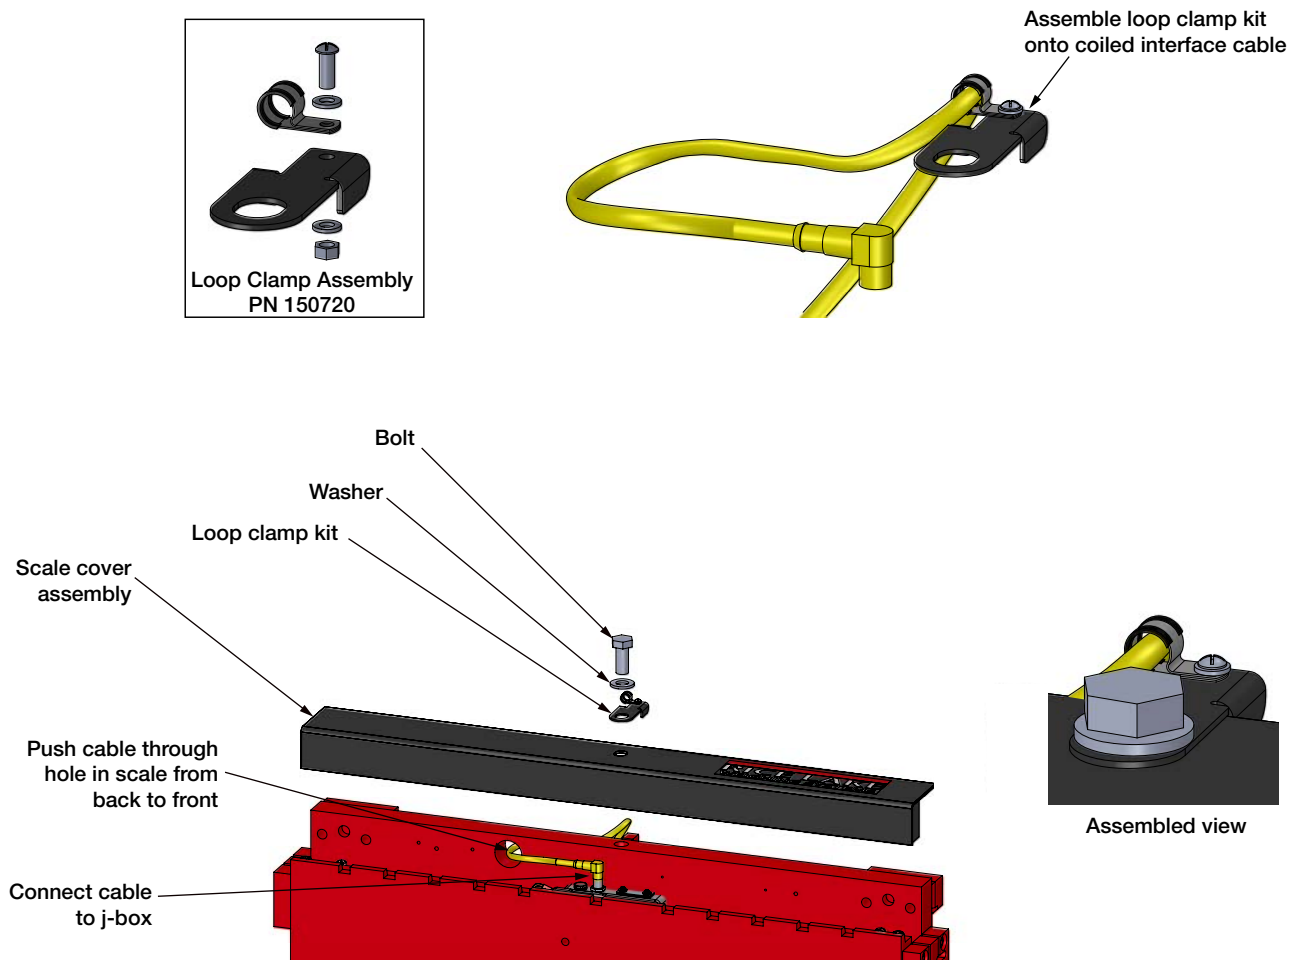

Figure 2-6. Connecting The Coiled Cable
1. Loosen the bolt holding the cover to the scale assembly and remove cover. See Figure 2-6.
3. Push the coiled interface cable through the hole in the scale and connect it to the j-box. See Figure 2-6.